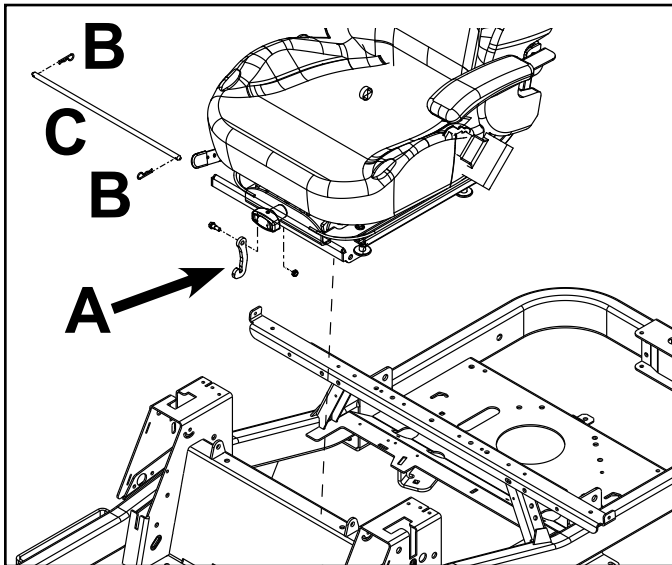

Fig. 021
2. Remove the (2) control handles.
4. Disengage the seat stop (A), from the seat support. Remove the cotter pins (B) and seat pivot rod (C), then remove the seat assembly from the unit (MX Shown) (Fig. 021).